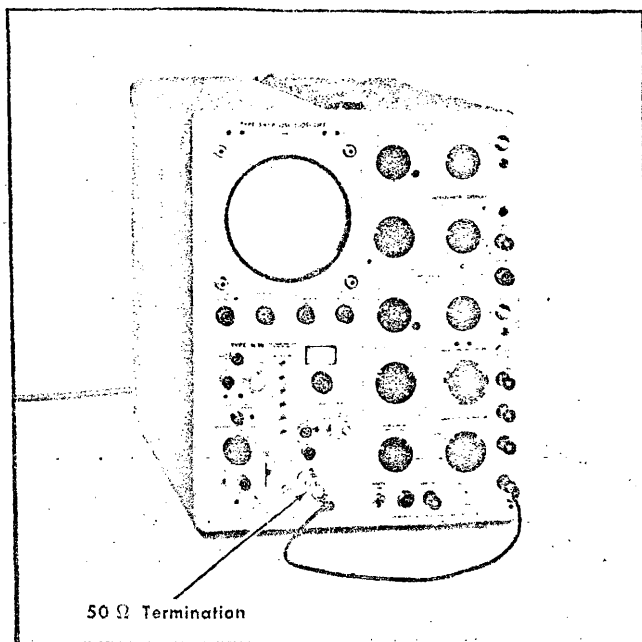

Fig. 6-29. Equipment setup to check internal spurious signal response (step 19).
a. Equipment setup is shown in Fig. 6-29.